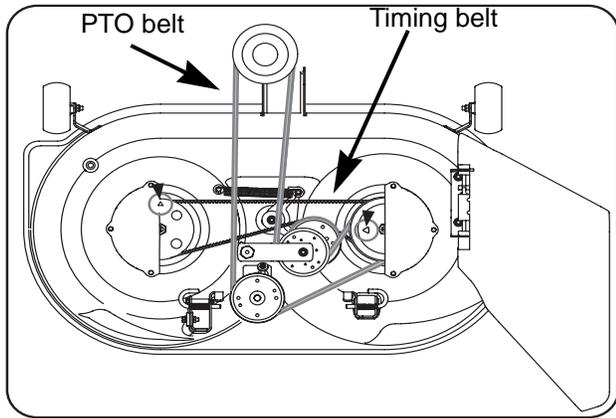

Figure 8.19
- For a 42" timed "R" deck, See Figure 8.19.